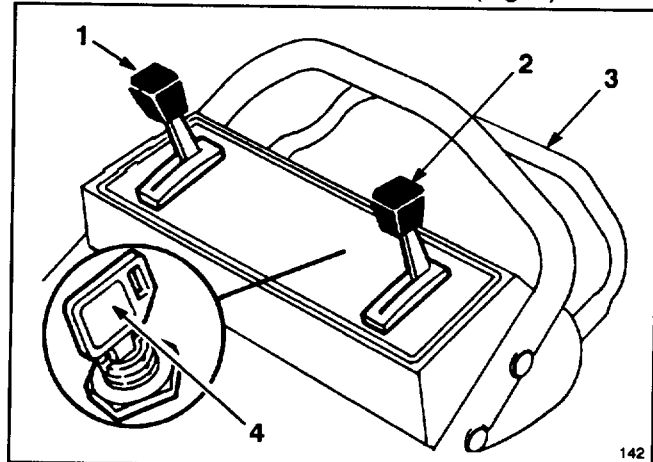
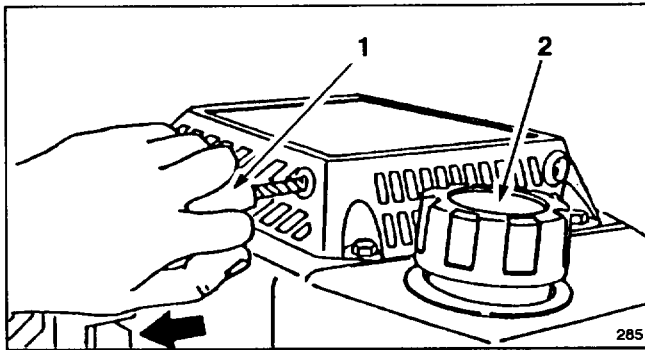

Figure 9
Figure 10
1. Clean around fuel tank cap (Fig. 10) and remove cap from tank. Do not fill tank full. Using unleaded gasoline, fill fuel tank to within 6 to 13 mm (1/4 to 1/2 inch) from top of tank, not into the filler neck.
bar are on upper handle (Fig. 9). Fingertip starter is on top of engine (Fig. 10).
2. Move ground speed control to "N" (Fig. 9).
3. KEY-ELECTRIC STARTING—Move throttle forward (Fig. 9) to CHOKE position. Turn key (Fig. 9) to START and release when engine begins running. Move throttle rearward to FAST position or regulate engine speed as desired. If the battery's charge is too weak to start the engine, use the recoil starter (Fig. 10).
6. STOPPING (Fig. 9)—Release control bar to stop traction drive. Move ground speed control to "N". To